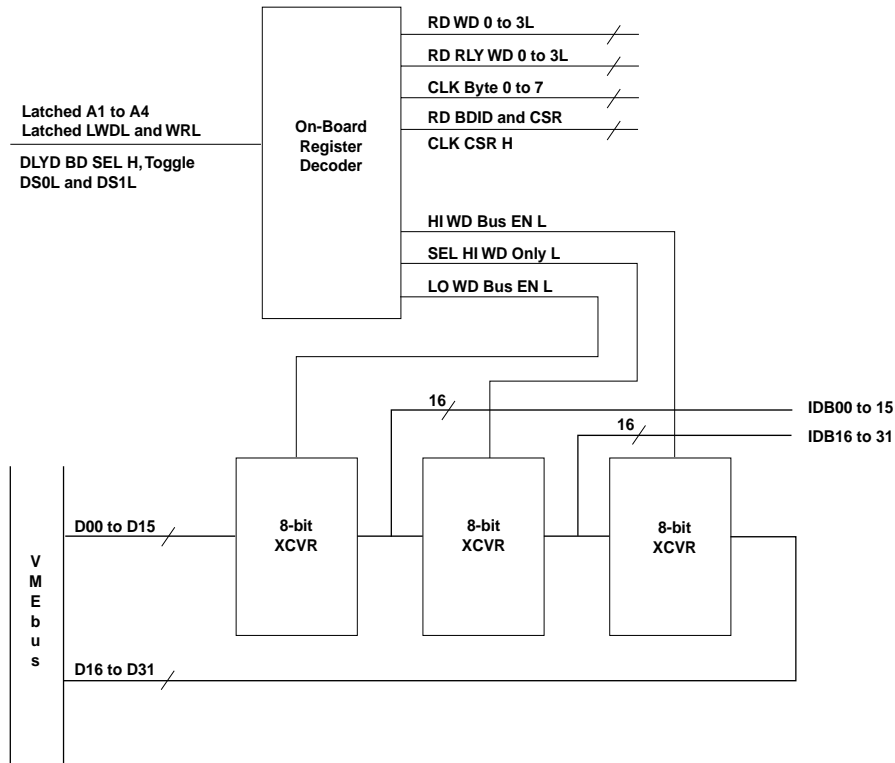

Figure 1-3 Board Register Decoder and Data Steering Logic
- Figure 1-3 Board Register Decoder and Data Steering Logic 18
Once the decoder decides to respond, `BD_SEL_H` is asserted (driven high). This signal clocks into a register the state of the VMEbus control lines and the four lowest address lines. The outputs of this register are used to decode the internal board functions. The outputs of this decoder (shown in Figure 1-3 on page 18) engage data transceivers, who steer the data to the proper internal register, and clock this data into a register or place data on the Internal Data Bus (IDB), depending upon the type of data cycle.